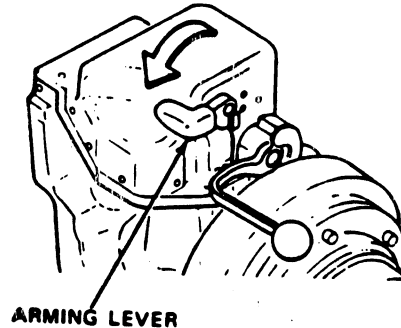

Fig 4-45. Arming lever.
Step 3. Lower the arming lever (if the missile was not fired) (fig 4-45).